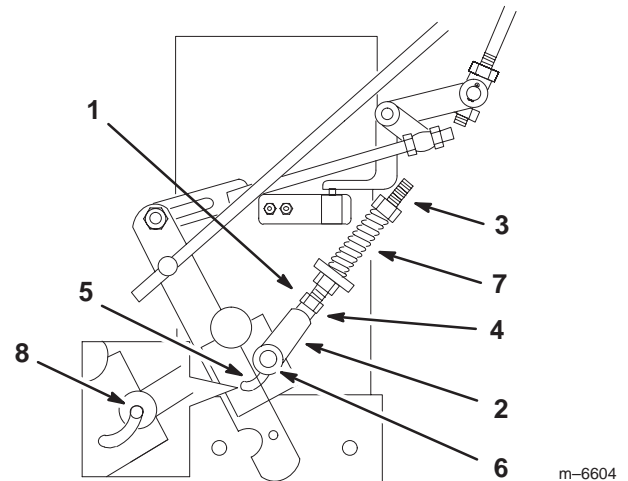

Figure 48
3. Adjust the left and right neutral stud until the clevis pin in the yoke touches the back end of the slot in the control arm (Fig. 48).
7. Loosen the nut against the yoke (Fig. 48).